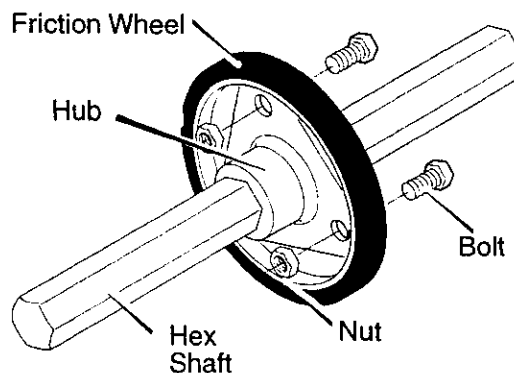

Figure 31
6. Remove the three fasteners that hold the **friction wheel** to the **hub**. See Figure 31.
9. Remove the **friction wheel** from the **hub**. Slip the **friction wheel** toward the right off the **hex shaft**. See Figure 31.